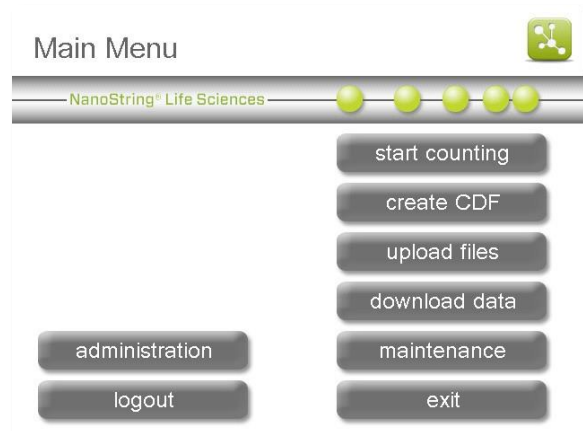

Figure 83: The Main Menu.
1. From the Main Menu (**Figure 83**) select **start counting**.